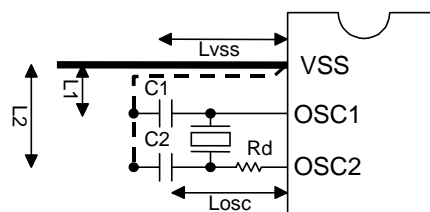

Figure 2-1. Sample Oscillation Circuit 1 (Ceramic resonator)
- When the ceramic resonator option is selected: (Figure 2-1)
- The length of the lines ( $L_{osc}$  in Fig.2-1) between the clock I/O pins (input: OSC1, output: OSC2) and the external components should be as short as possible.